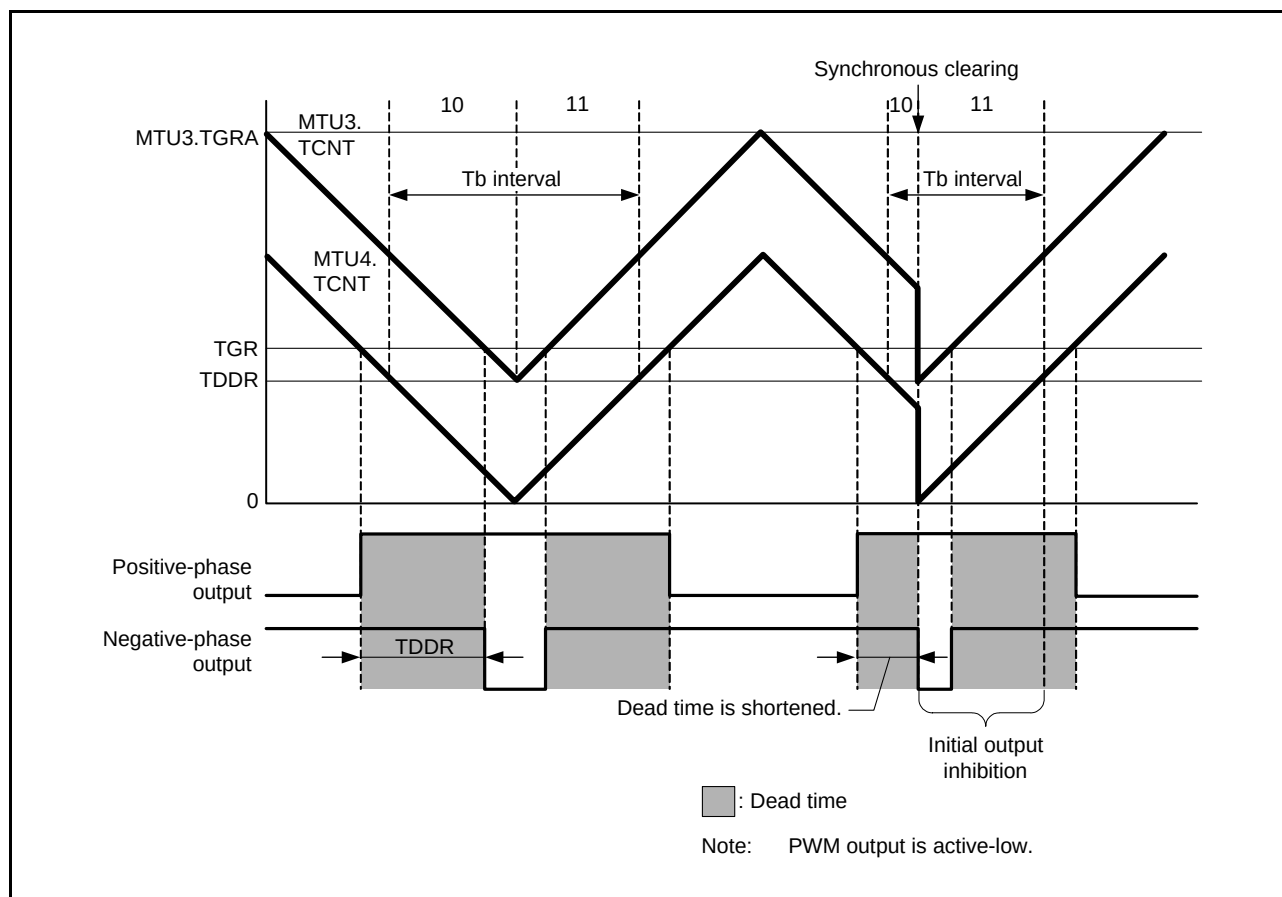

Figure 23.111 Example of Synchronous Clearing (When Condition 1 Applies)
Condition 1: In portion (10) of the initial output inhibition period in Figure 23.111, synchronous clearing occurs within the dead-time period for PWM output.